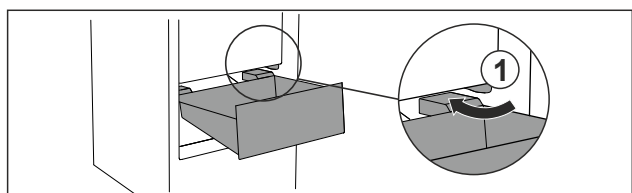

Fig. 27
- ▶ Guide drawer in at an angle around the stoppers Fig. 27 (1).